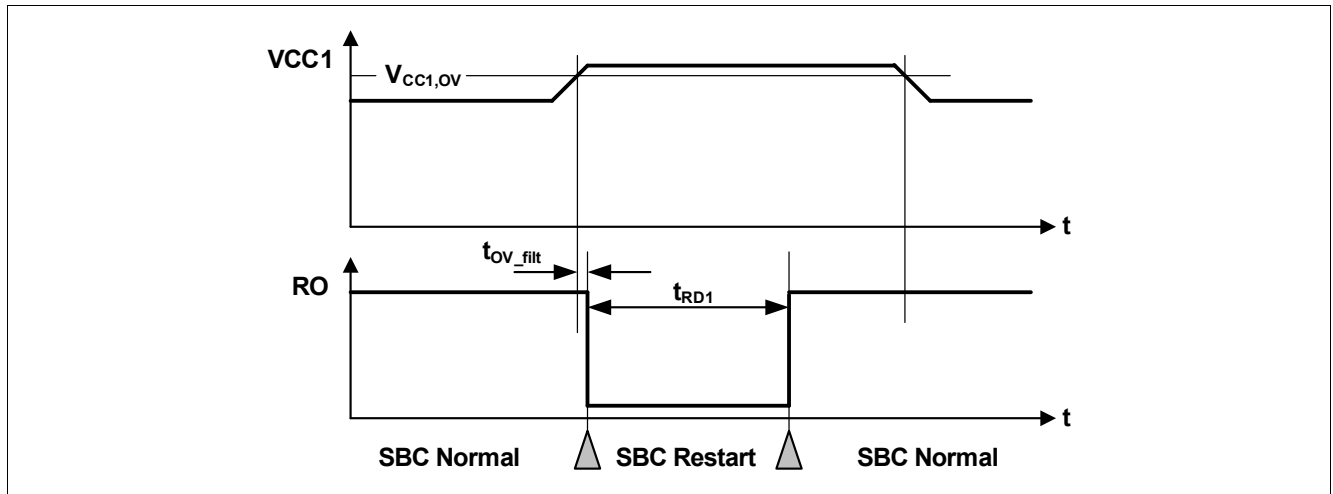

Figure 41 VCC1 Over Voltage Timing Diagram
- If the bit **VCC1_OV_RST** is set and **CFGF** = '1', then SBC Restart Mode is entered. The FOx outputs are activated. After the reset delay time (t_{RD1}), the SBC Restart Mode is left and SBC Normal Mode is resumed even if the VCC1 over voltage event is still present (see also Figure 41). The **VCC1_OV_RST** bit is cleared automatically;